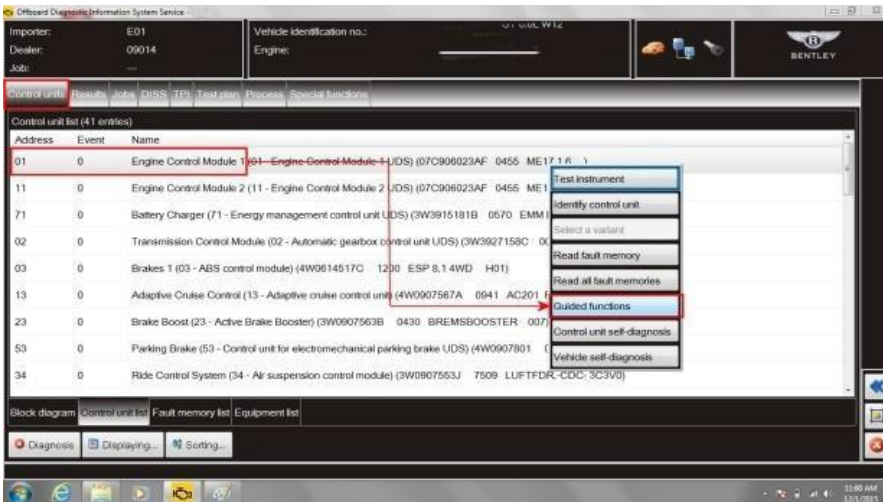

Figure 14
1. Within Control units–Select (single touch) *01 Engine Control Module*– Reveal drop down menu (extended touch and release), Select *Guided functions* (see Figure 14)